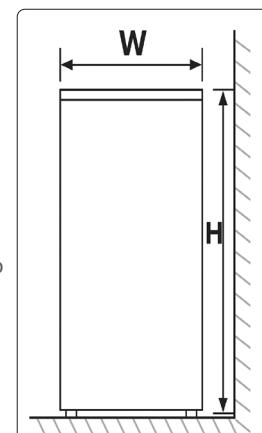

fig.10
- **NOTE:** Fig.10, Fig. 11 illustrate the space required around the unit installation.